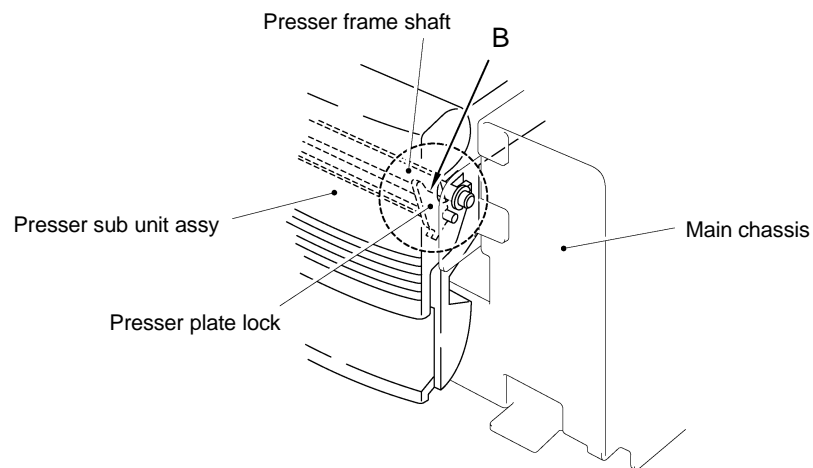

Fig. 3.72D
- (4) Close the presser plate.
Note 5: Check that the presser plate is locked (B), as shown in Fig. 3.72D.